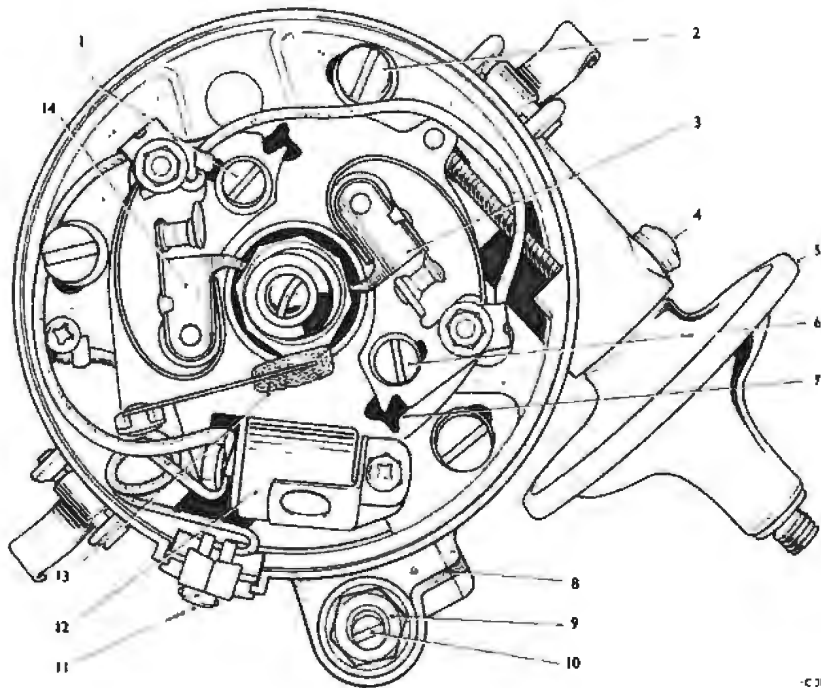

Fig. M1 (S) Internal view of distributor
For identification of detail parts of the distributor, refer to Figure M1(S) of this Supplement.
Remove the screws (1 and 6 see Fig. M1 (S) of this Supplement) which secure the fixed contact points and withdraw the fixed contact points from the distributor.
To adjust the points slacken the two screws (1 and 6) shown in Figure M1(S) of this Supplement, which secure the fixed contact points, then using a screwdriver in the contact breaker gap adjusting slot (7), set the gaps to between 0.014 in. (0.256 mm.) and 0.016 in. (0.406 mm.).
Release the lock-nut (9) shown in Figure M1(S) of this Supplement and set the octane selector (8) to the 'A' mark on the scale before carrying out the ignition timing.
Release the distributor clamping screw, then rotate the distributor body until the set of contacts (14) shown in Figure M1(S) of this Supplement, opposite the vacuum advance unit, are just breaking.